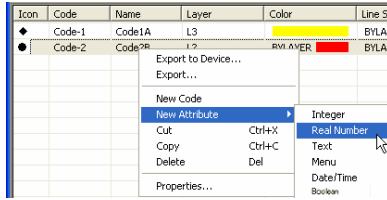

Figure 5-62. Select Attribute to Add
- On the *Line* tab, select the line plotting style (color, style,width). On the *Point* tab, select the point plotting style (symbol and color). On the *Area* tab, select the area plotting style (color, fill style, fill transparency). The plotting style can be edited for any code with or without a layer (Figure 5-62).
1. Right-click a code to add an attribute to and click **New Attribute** then select the attribute type on the pop-up menu (Figure 5-62).